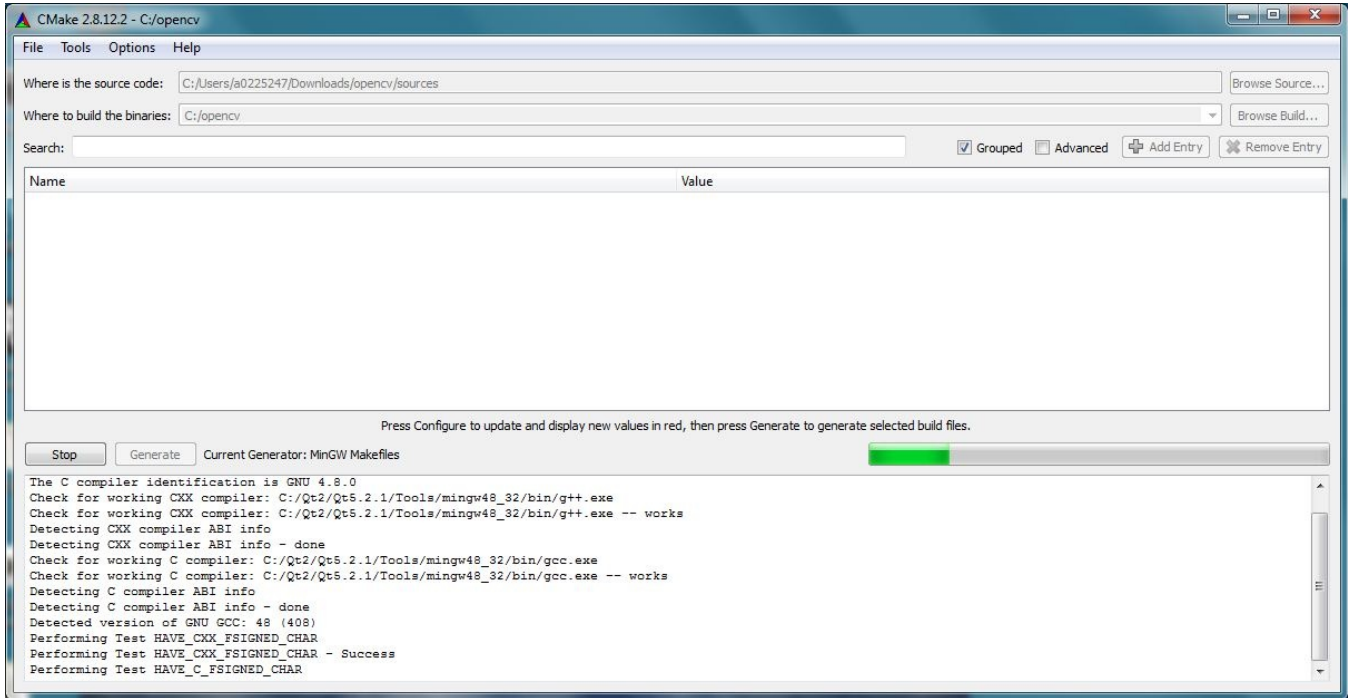

Figure 4-26. Cmake Install Option Configuration
16. Cmake uses the instruction files located in the OpenCV source directory to configure build options. This step may take a while and should complete with no errors in the lower status window as shown in Figure 4-26. **Note:** If an error occurs immediately, check the PATH variable and ensure that the directory to the MinGW compilers is correct, and the computer was restarted to make the changes take effect.